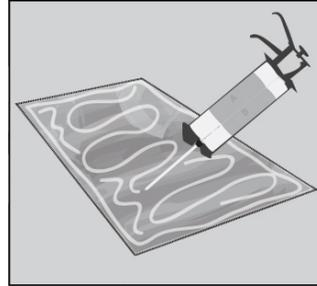
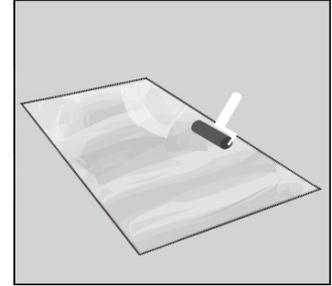

Figure 7: Dispense bonder paste onto application area. Apply thin bead along perimeter.
Figure 8: Spread bonder paste using the supplied roller.
3. *Apply the bonder paste:* Immediately after the sealer has been applied, apply the bonder paste. See Figure 7. Follow a similar procedure as for the sealer with two notable changes: a) use minimal downward pressure on the (new) foam roller “pushing” rather than “rolling” the bonder paste over the application area; See Figure 8 b) apply a thin bead of bonder paste along the inner perimeter of the marking ensuring coverage along the outer edges. **Note: Do not apply bonder paste beyond the marked outline.** Applied correctly the bonder paste layer will be noticeably thicker than that of the sealer. As with the sealer, allow approximately one cartridge per 4 ft. x 2 ft. ramp. Be ready to apply the domed sheets as soon as the bonder paste has been applied. (See Step 1 below). **Note: If a new bonder paste cartridge, or nozzle, is used, the first 12” of bonder paste bead must be dispensed and “rolled” into the application area to ensure a good mix ratio, or it must be discarded into the aluminum tray provided.**